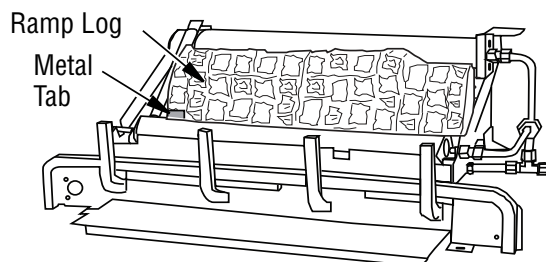

Figure 38 - Installing Fiber Ramp Log
- Place fiber ramp log in center of chassis as shown in **Figure 38, Page 21**. The fiber ramp log can be identified by the shape and much lighter weight when compared to the other logs. The log must sit flat on the black sheet metal and behind the left metal tab as shown. Make sure the side marked "BOTTOM" is setting down.